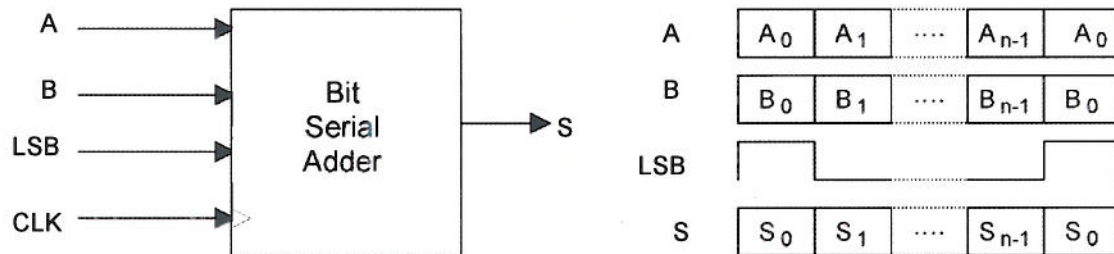

Figure 7
6. A bit-serial adder circuit takes two inputs  $A$  and  $B$  as serial data with least significant bit first, and produces the sum output serially on each clock cycle, also with least significant bit first. Figure 7 shows a functional block diagram of the bit-serial adder along with its timing diagram. A synchronisation signal  $LSB$  is normally low but goes high when the least significant bits of  $A$  and  $B$  are applied. The clock signal  $CLK$  determines the bit period of the bit-serial data. All signal transitions occur on or shortly after the rising edge of  $CLK$ .